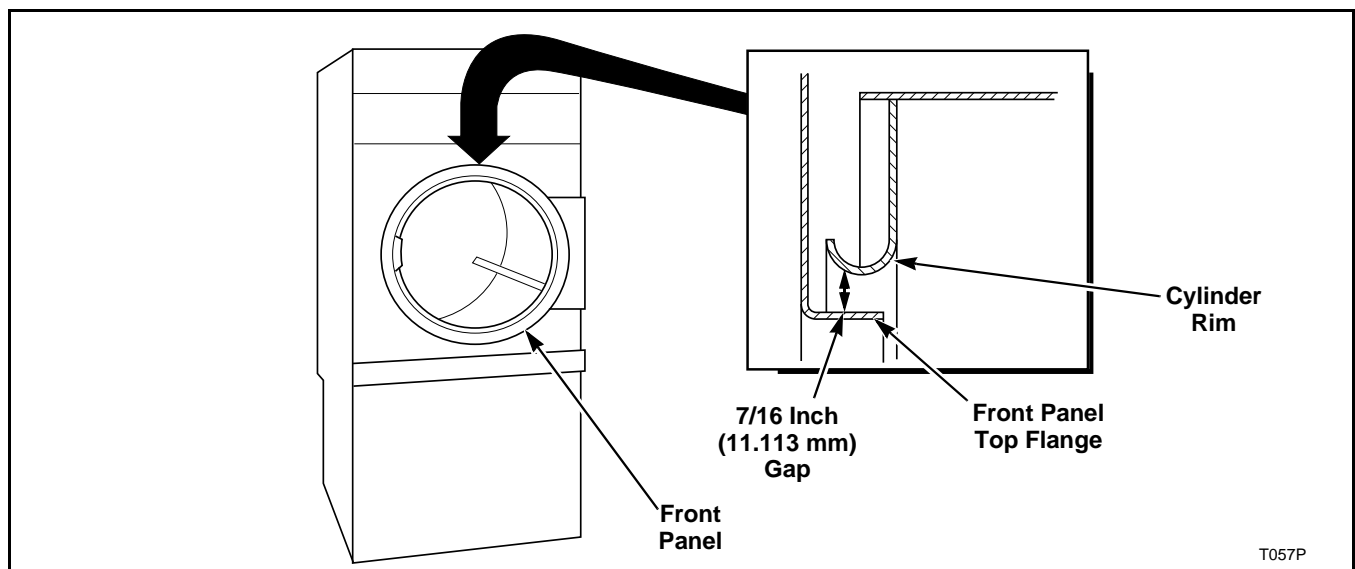

Figure 2
- a. Open loading door and check the gap between the center of the front panel top flange and the cylinder rim. Proper adjustment is when the gap is 7/16 inch (11 mm). Refer to *Figure 2*.